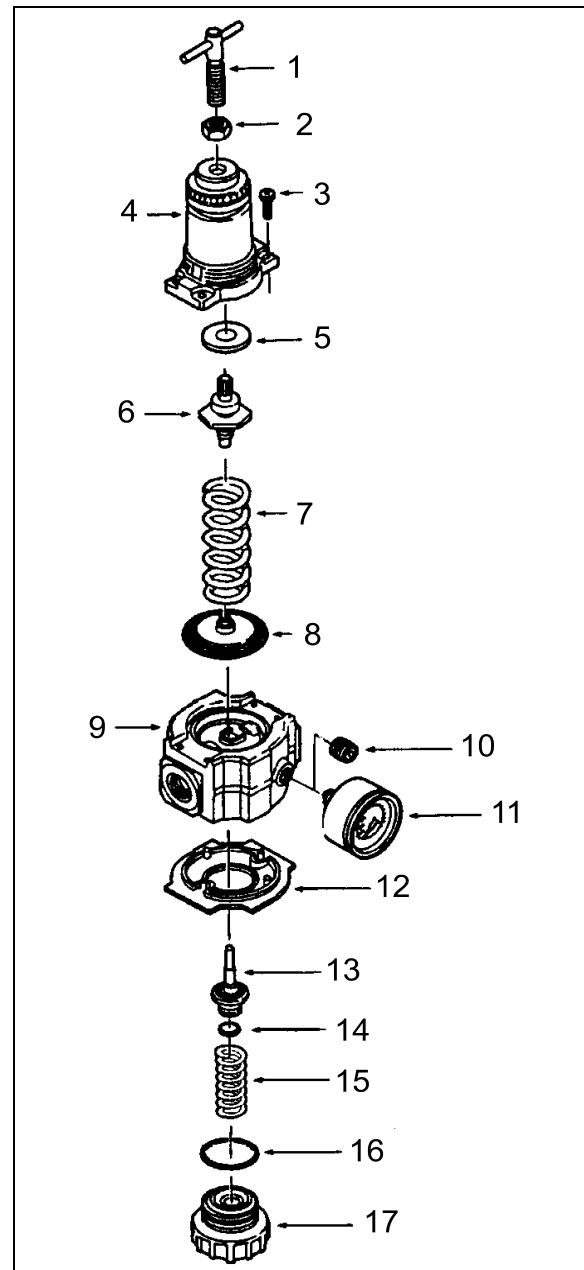

FIGURE 45: AIR PRESSURE REGULATOR
1. Before turning on system air pressure, release jam nut (2, Fig. 45) then turn regulator adjustment handle counter-clockwise until all load is removed from the regulating spring.
5. Tighten jam nut (2, Fig. 45) to lock pressure setting.
1. Shut off inlet pressure and reduce pressure in inlet and outlet lines to zero. Turn regulator adjustment handle (1, Fig. 45) counterclockwise until all load is removed from regulating spring. Regulator can be disassembled without removal from air line.
1. Lubricate O-ring (14 and 16, Fig. 45), valve stem (13, Fig. 45), tip of adjusting screw (1, Fig. 45), and the outer circumference and both sides of the thrust washer (8, Fig. 45) with a light coat of good quality O-ring grease.